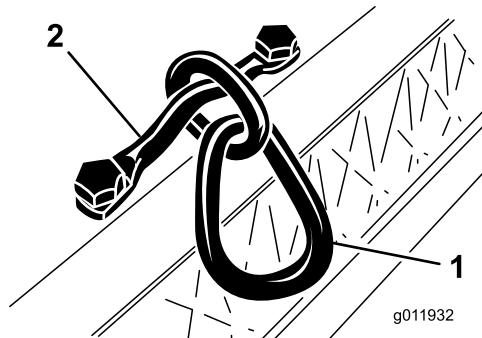

Figure 7
- Torque the capscrews to 34 to 40 N·m (25 to 30 ft-lb) (Figure 7).